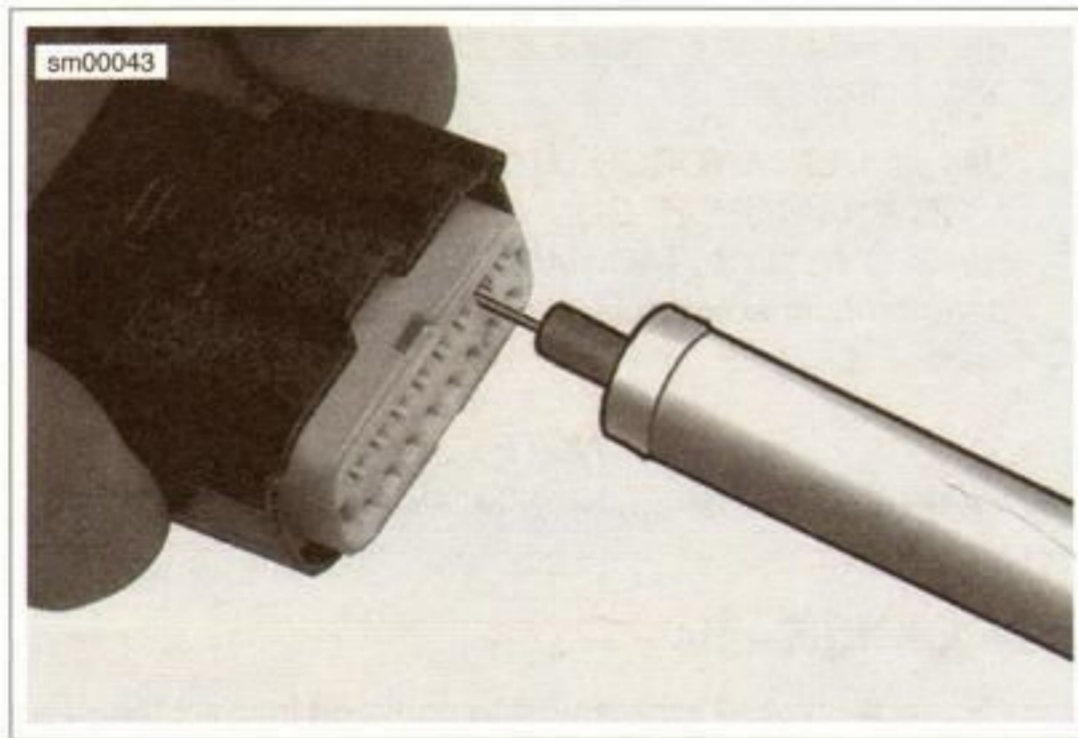

Figure A-27. Molex Connector: Terminal Remover (HD-48114)
2. See Figure A-27. Insert MOLEX ELECTRICAL CONNECTOR TERMINAL REMOVER (Part No. HD-48114) into the pin hole next to the terminal until the tool bottoms.